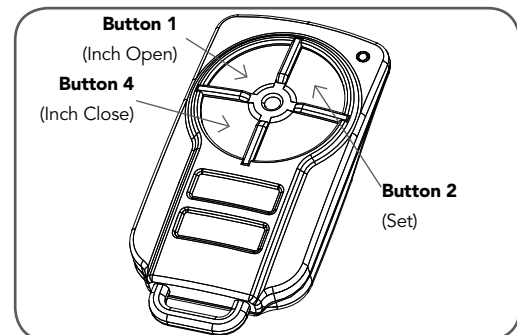

fig 32
- Press Button 1 on the transmitter for two seconds (**Fig. 32**). Release and pause for two seconds. Press the same button again on the transmitter for two seconds.